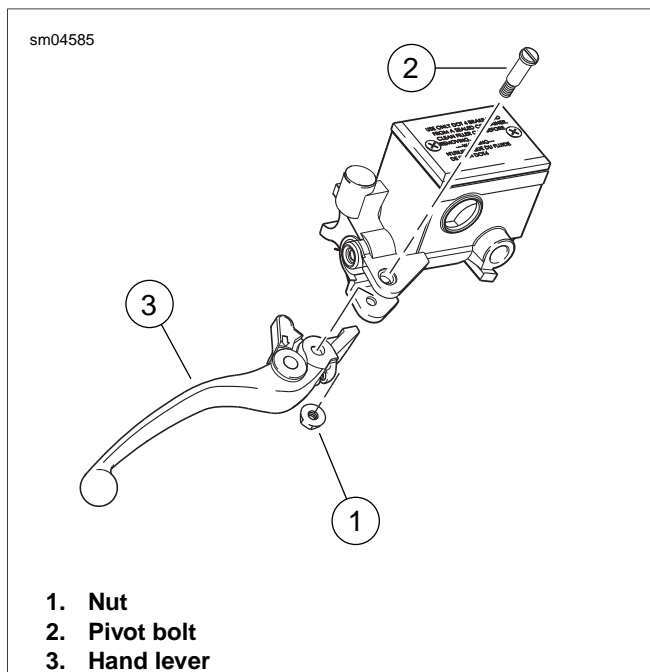

Figure 2-34. Front Brake Lever
1. See Figure 2-34. Remove pivot bolt nut (1) and pivot bolt (2) to detach the brake hand lever (3).
4. Install pivot bolt (2) through bracket and hand lever and thread into bracket.
6. Thread nut (1) onto pivot bolt and tighten nut to 43-61 **in-lbs** (4.9-6.9 Nm).